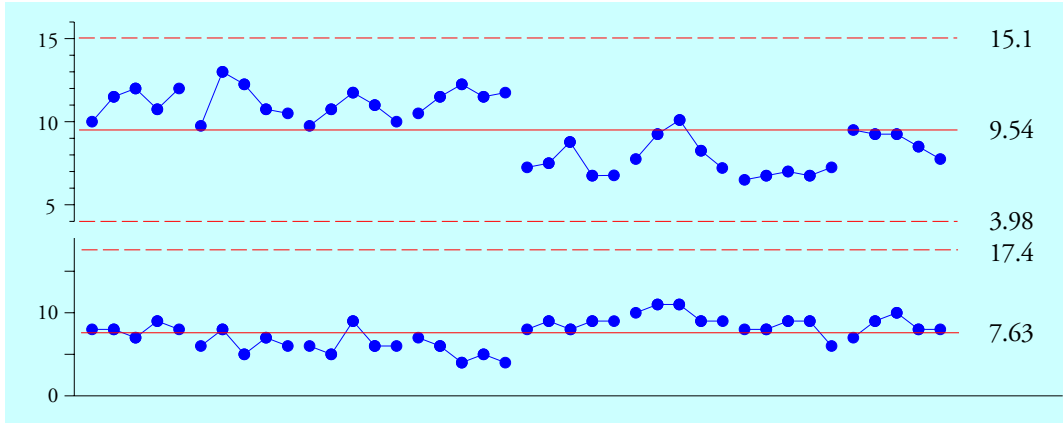
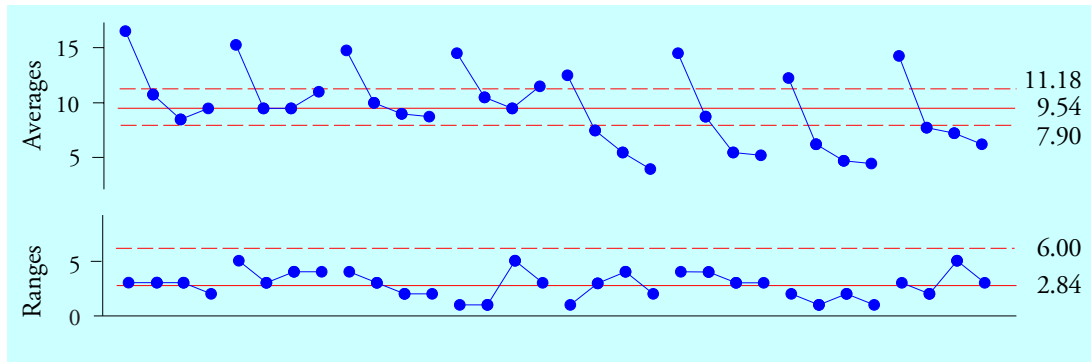
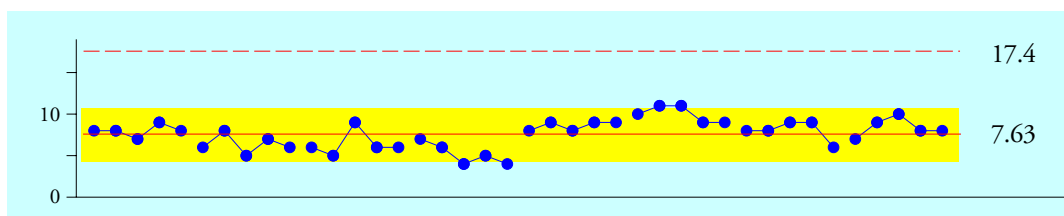

Figure 7: Average and Range Chart for First Organization of the Socket Data
Figure 9: Average and Range Chart for Second Organization of Socket Data
Figure 12: Range Chart from First Organization of Socket Data
The grand average is 9.54, the average range is 7.63, resulting in the limits shown in Figure 7. By leaving selected line segments out we make the graph easier to read by giving our eyes an anchor to see each hour separately. While no points fall outside the limits, there is a clear signal on the average chart. With 20 out of 20 averages above the central line followed by 19 out of 20 below the central line there is a real difference between days one and two. There may also be a day-to-day difference showing up on the range chart. So we answer question 1 with a definite yes, we answer question 2 with a no, and we answer question 3 with a probable no.
The grand average is 9.54, the average range is 2.84, resulting in the limits shown in Figure 9. With 20 of our 32 averages outside the limits we have plenty of signals to interpret. There are detectable differences between the two days and there are detectable differences between the four cavities. Moreover, the cycle-to-cycle variation appears to be consistent from subgroup to subgroup.
The first organization resulted in Question 3 which asked “Are the cavity-to-cavity differences consistent?” The range chart in Figure 7 answered this question in the affirmative. The cavity-to-cavity differences are consistent.
The second organization resulted in Question 6 which asked “Are there detectable differences between cavities?” The average chart in Figure 9 answered this question in the affirmative. There are detectable differences between the four cavities. Cavity I is making consistently thicker parts than the other cavities.
**Never knowingly subgroup unlike things together.** Each subgroup must be logically homogeneous. When you combine apples and oranges and bananas together you may get a good fruit salad, but you will have lousy subgroups. Fortunately, the range chart can warn you when you have systematically combined unlike things together within the subgroups. Figure 12 shows the range chart from Figure 7. There we had all four cavities within each subgroup.
The highlighted band in Figure 12 is a one-sigma band. We expect anywhere from 60% to 75% of the range values to fall within this band. Here we get 36 out of 40, which is 90% within one-sigma of the central line. These ranges are hugging the central line, which is a characteristic of having subgroups that are stratified by having unlike things grouped together. The usual guideline for hugging the central line is having 15 successive ranges within one-sigma of the central line of the range chart. If you find this, check for possible stratification within the subgroups. To understand how stratification within the subgroups affects the average chart compare the average chart limits of Figure 7 (basically 4 to 15) with those of Figure 9 (basically 8 to 11).
What was the implicit assumption of Figure 7 that turned out to be erroneous?